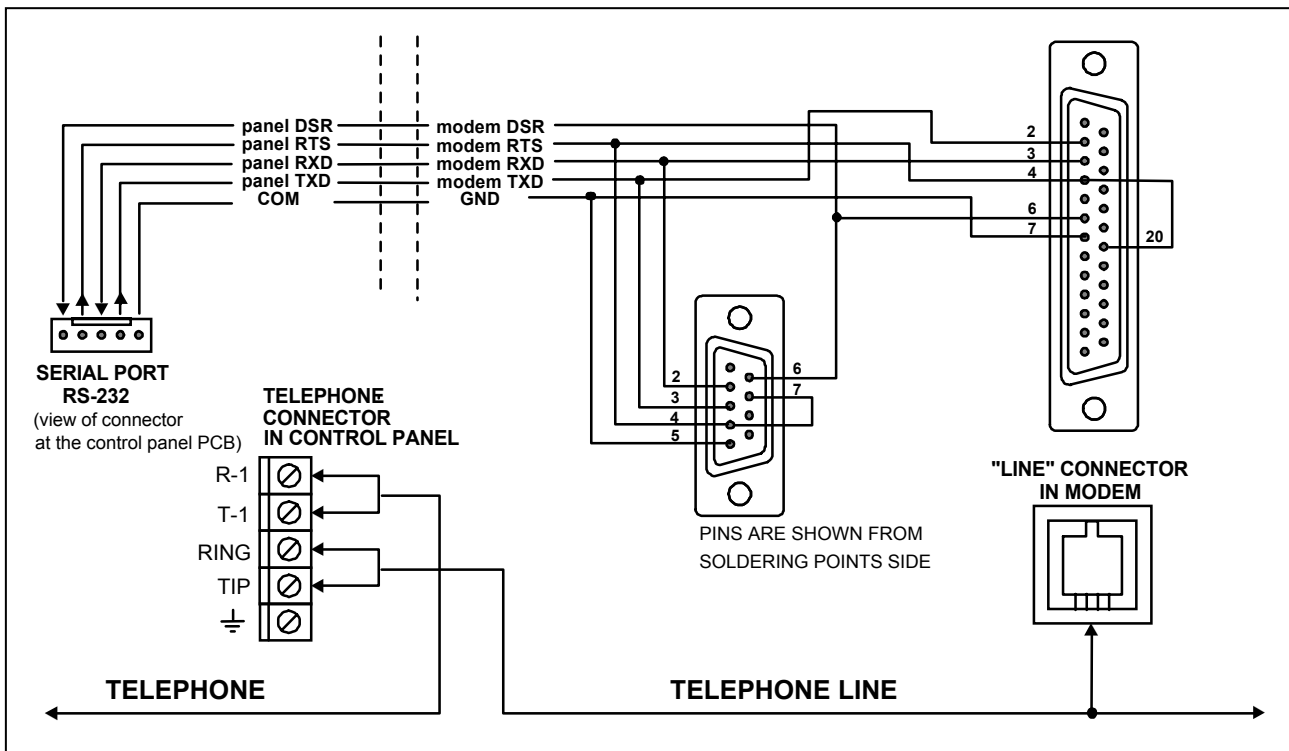

Fig. 31. Connection of an external modem to the control panel serial port.
- Connect, using a suitable cable, the panel RS-232 port to the modem port (Fig. 31).